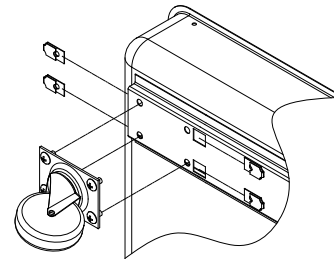

Fig. 1
- Note:** The installation kit includes (2) swivel casters with brake, (2) swivel casters without brake, (16) tinnerman nuts and (16) 1/4-20 x 1/2 screws.
- Place the unit on its side. Place the tinnerman nuts on the caster bracket on the bottom pan as shown in figure 1.